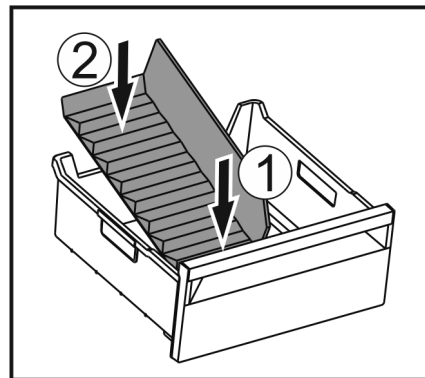

Fig. 116
- Insert the front part of the ice compartment divider. Fig. 116 (1)
- Lower the rear part of the ice compartment divider to the drawer bottom. Fig. 116 (2)